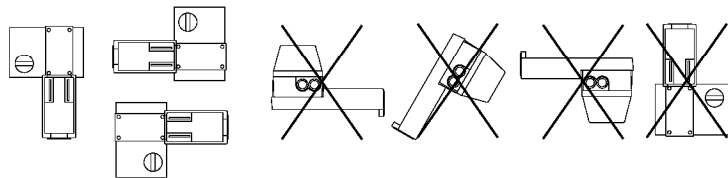

Figure-5 Proper Actuator Mounting Orientation.
- Do not install the actuator in any other position than those shown in Figure-5.